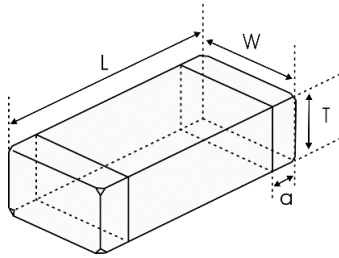

图1 Fig.1
- 尺寸：见图1和表1
- Dimensions: See Fig.1 and Table 1.